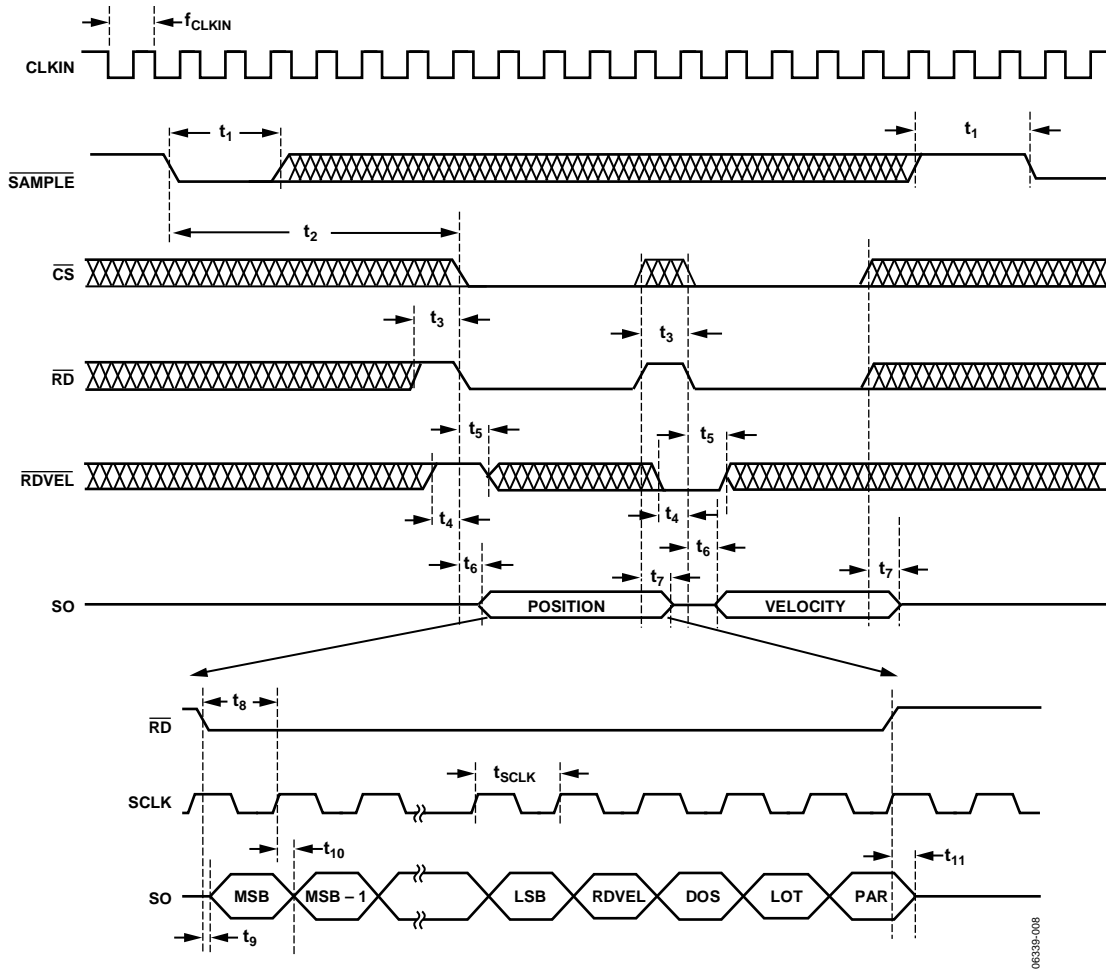

Figure 8. Serial Port Read Timing
The angular position and velocity are available on the AD2S1205 in two 12-bit registers. These registers can be accessed via a 3-wire serial interface (SO,  $\overline{RD}$ , and SCLK) that operates at clock rates of up to 25 MHz and is compatible with SPI and DSP interface standards. The serial interface is selected by holding the  $\overline{SOE}$  pin low. Data from the position and velocity integrators are first transferred to the position and velocity registers using the  $\overline{SAMPLE}$  pin. The  $\overline{RDVEL}$  pin selects whether data is transferred from the position or velocity register to the output register, and the  $\overline{CS}$  pin must be held low to transfer data from the selected register to the output register. Finally, the  $\overline{RD}$  input is used to read the data that is clocked out of the output register and is available on the serial output pin (SO). When the serial interface is selected, DB11 is used as the serial output pin (SO), DB10 is used as the serial clock input (SCLK), and Pin DB0 to Pin DB9 are placed into the high impedance state. The timing requirements for the read cycle are described in Figure 8.
The output shift register is 16 bits wide. Data is clocked out of the device as a 16-bit word by the serial clock input (SCLK). The timing diagram for this operation is shown in Figure 8. The 16-bit word consists of 12 bits of angular data (position or velocity, depending on  $\overline{RDVEL}$  input), one  $\overline{RDVEL}$  status bit, and three status bits (a parity bit, a degradation of signal bit, and a loss of tracking bit). Data is clocked out MSB first from the SO pin, beginning with DB15. DB15 through DB4 correspond to the angular information. The angular position data format is unsigned binary, with all 0s corresponding to  $0^\circ$  and all 1s corresponding to  $360^\circ - 1$  LSB. The angular velocity data format is twos complement, with the MSB representing the rotation direction. DB3 is the  $\overline{RDVEL}$  status bit, with a 1 indicating position and a 0 indicating velocity. DB2 is DOS, the degradation of signal flag (refer to the Fault Detection Circuit section). Bit 1 is LOT, the loss of tracking flag (refer to the Fault Detection Circuit section). Bit 0 is PAR, the parity bit. The position and velocity data are in odd parity format, and the data readback always contains an odd number of logic highs (1s).